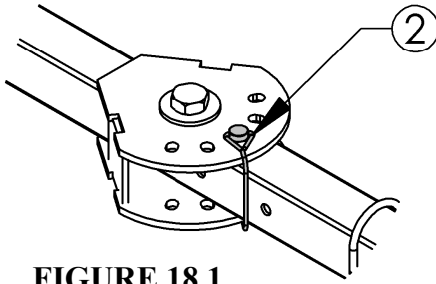

FIGURE 18.1
- Unlatch & remove the 3/8" Pin ② located in the center of the Hitch Bar. **Figure 18.1**
- Rotate Hitch Arm until the desired offset location is achieved. Reinstall 3/8" Pin and lock retainer. **Figure 18.1**